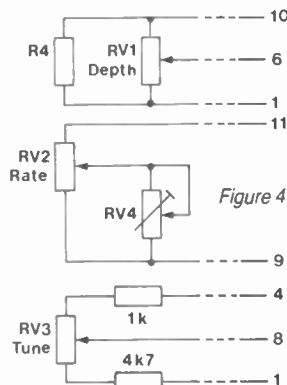

Figure 4
Fig.4 shows where to connect the external control potentiometers.
(TR1 and REG1 can both be mounted on the one heatsink). *These parts are supplied free with the DMO2T and are not required with the DMO2. The DMO2(T) requires a -15V supply at typically 50mA. The tune control shown in Fig. 4 is an optional extra and allows the DMO to be fine-tuned from the organ console. If you want this facility you will require the following parts.